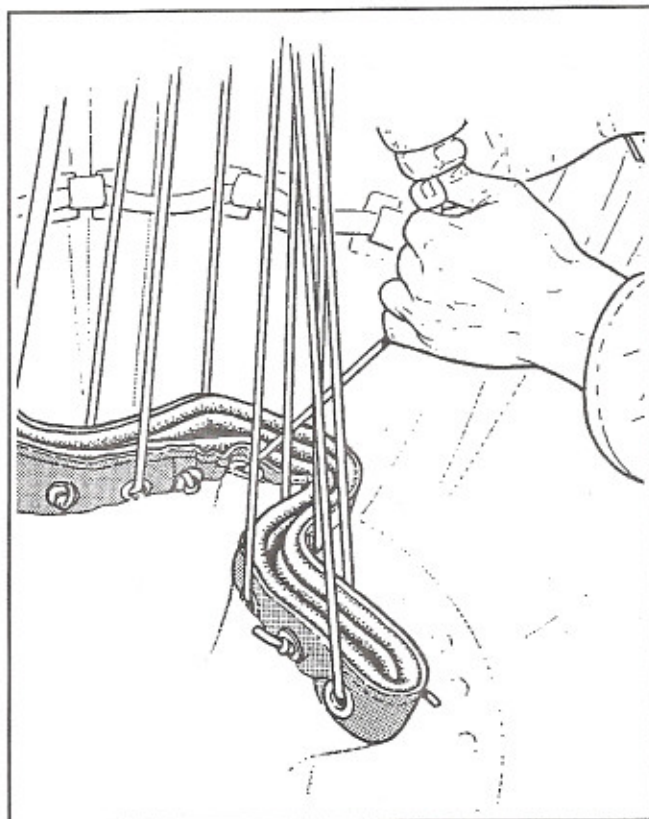

Fig. 15: Pulling the purse line to bring lower lip into alignment.
- 1) Grasp the purse lines at the centre of the section of low lip as shown in Fig. 15.